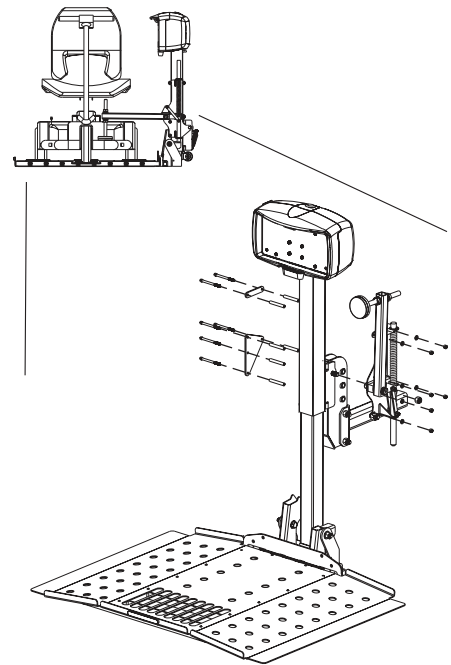

Figure 4-13
3. With the adaptable hold-down foot assembly in the upright position, attach the HDF plates on the opposite side of the lifts outer tube and fasten them with the supplied hardware and spacers. *See Figure 4-13.*